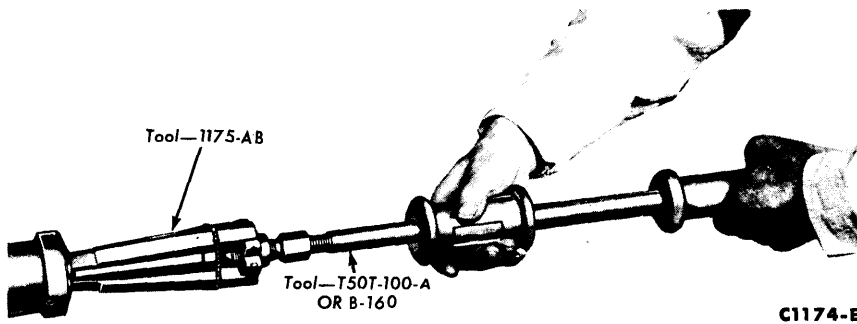

FIG. 17—Extension Housing Seal Removal
2. Carefully remove the seal with the tool shown in Fig. 17.